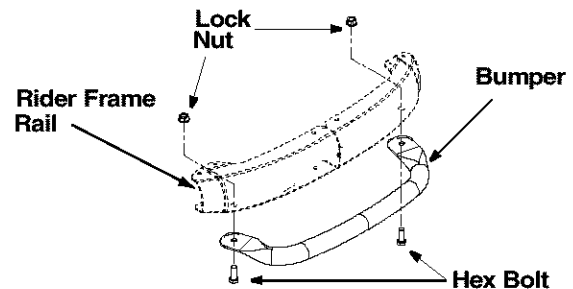

Figure 6
- Loosen and remove the two pairs of hex bolts and lock nuts from the front rail on the riding mower. See Figure 6.
- Align the two holes on the bumper tube with the corresponding holes on the rider frame (from where you removed the hardware). See Figure 6.